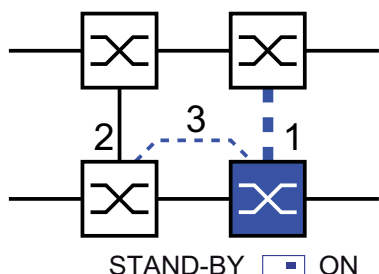

Figure 39: Two-Switch coupling with control line
- Select "Two-Switch coupling with control line" by means of the dialog button with the same graphic as below (see figure 39).